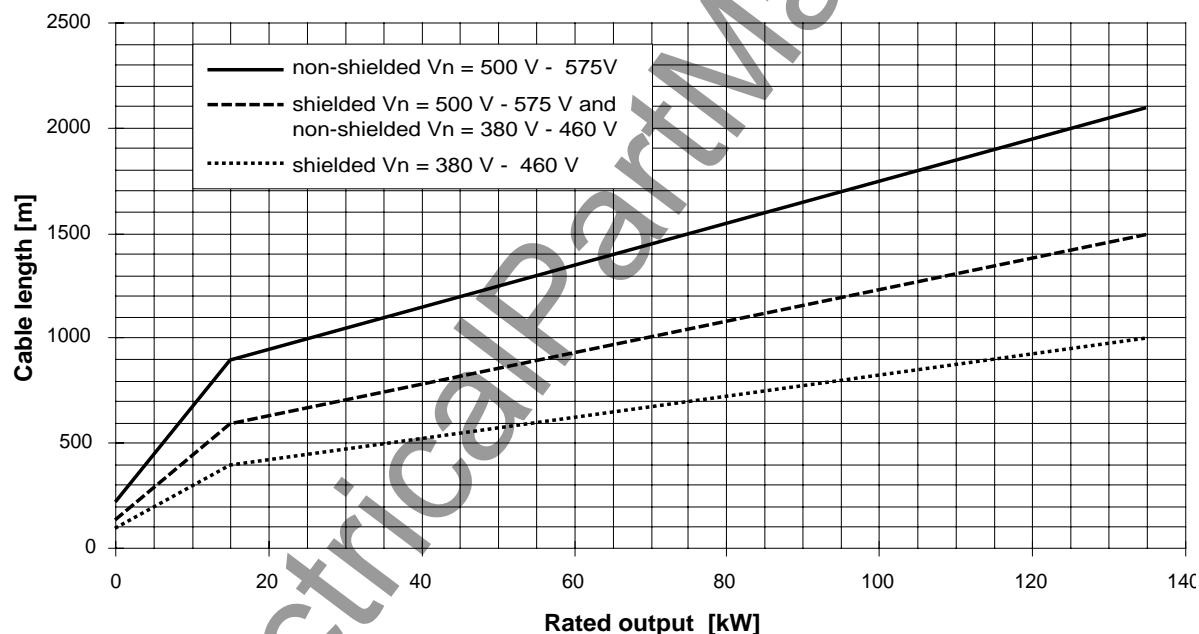

Fig. 3-4 Permissible motor cable lengths for shielded and non-shielded cables
- ◆ Permissible motor cable lengths see Fig. 3-4.
- ◆ Permissible motor cable lengths, see Fig. 3-4.